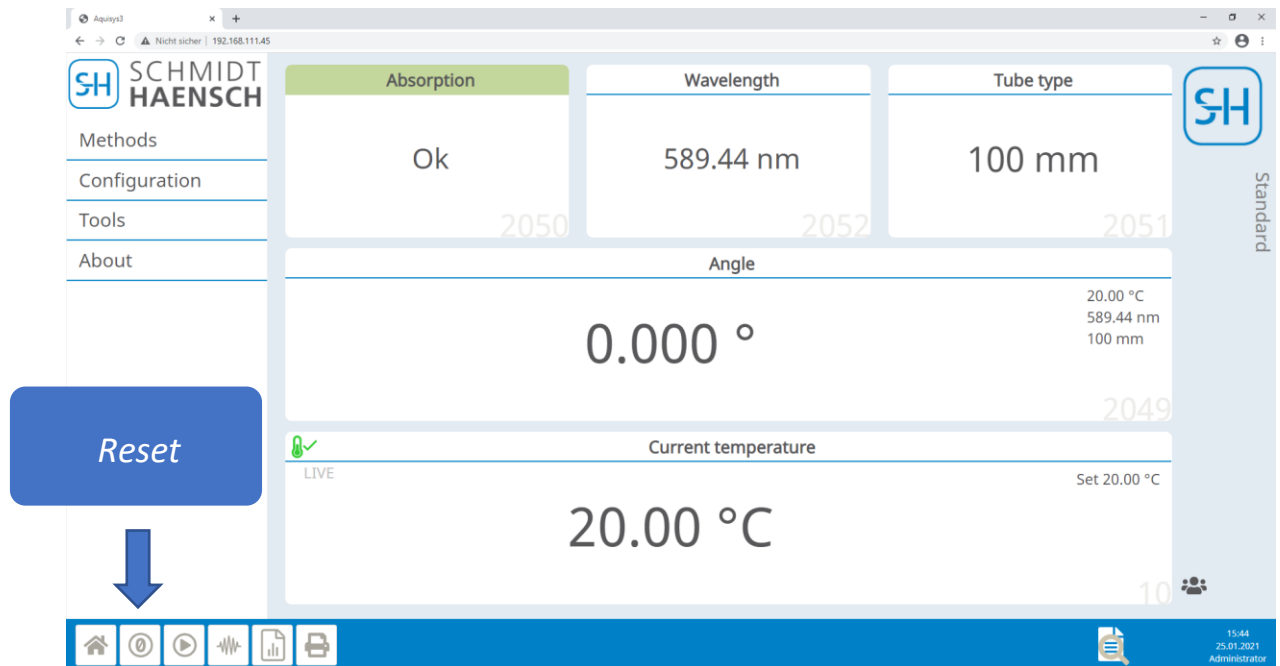

Figure 2: Standard method after zero setting with empty sample space
- ✓ After you have successfully performed the "zeroing" with empty sample space, your angular degree reading should show 0.000°. (see Fig. 2)
- However, if you do not receive 0.000° as a measured value for the empty measurement carried out in this way, reset your Varipol again by pressing the "zero button" (Fig. 2).